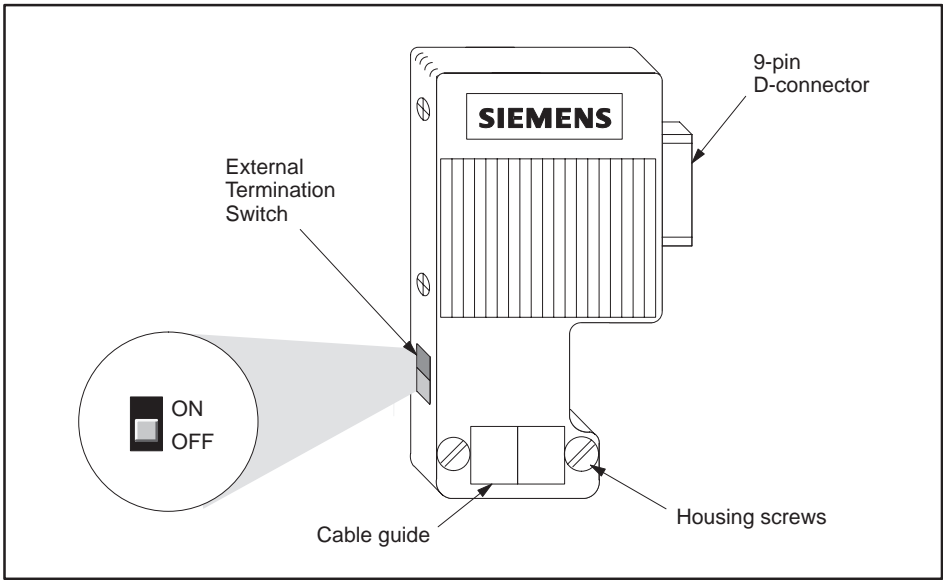

Figure 2-7 Connector
Mount the cable on the connector. The following procedure describes how to use the connection, shown in Figure 2-7.
1. Open the connector housing by loosening both housing screws (see Figure 2-7).
2. Remove the cover of the housing (see Figure 2-7).